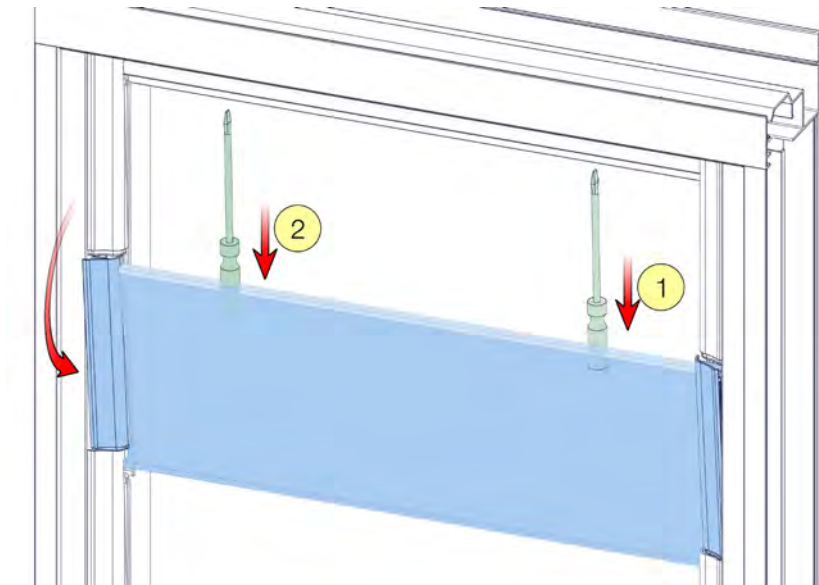

Fig. 23.4.4.2-1.1
1. From the inside of the window, start from the right side of the second blade. Pry the blade inward by hand and put the flat screwdriver handle into the gap. Using the same method, put another screwdriver handle on the operational side. Take care not to damage the blades. *Refer to Figure 23.4.4.2-1.1.*
2. Insert the 0.5mm thick steel rule between the top blade retention feature of clip and the blade on the right side. Slide the blade up approximately 10mm so the retention feature does not reengage and remove the rule. *Refer to Figure 23.4.4.2-1.2.*